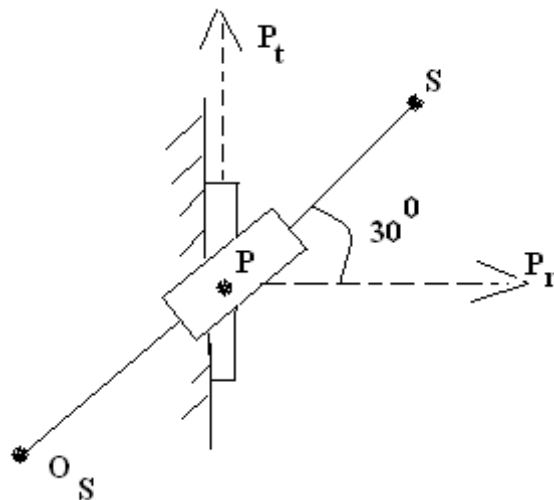

Figure 3:
4. Using Hartman's procedure construct the inflection circle for a moving plane shown in Figure 3 below. Assume $\omega_m = 0.5 \text{ rad/s}$ (c.c.w), $O_s \rightarrow S = 7 \text{ cm}$, $P \rightarrow S = 3 \text{ cm}$, $\theta = 30^\circ$.